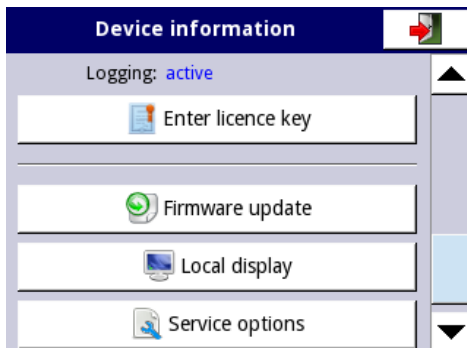

Fig. 7.26. Device information menu
**Enter licence key** button (see Fig. 7.26) allows the user to enter a licence key purchased from the manufacturer (or supplier), enabling additional software options which enhance the functionality of the device. After entering and accepting the licence key the device automatically starts up with new software options (if the licence key for data logging is entered the text under the **Licences** heading appears as: **Logging**: the period of validity - see Fig. 7.26).
**Firmware update** button (see Fig. 7.26) allows the user to update the device software. To perform the update:
- plug in the flash drive - start the update process by pressing the **Firmware update** button (see Fig. 7.26).